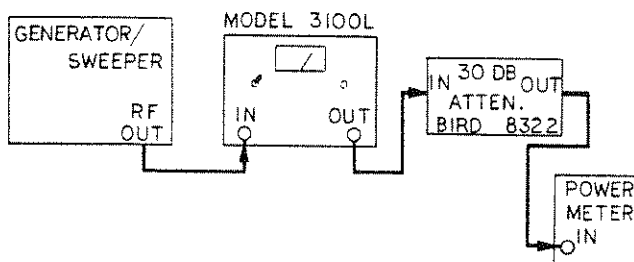

Figure 5-2. RF Output Power Test Set Up
- a. Set-up the test equipment as shown in figure 5-2.
- a. Set-up the test equipment as shown in figure 5-2 for RF output power test.
- b. Using the set-up of figure 5-2, measure and record the total output power.
- a. Set-up the test equipment as shown in Figure 5-2 with heatsink assembly substituted for the 3100L.
- a. Set up the test equipment as shown in Figure 5-2.